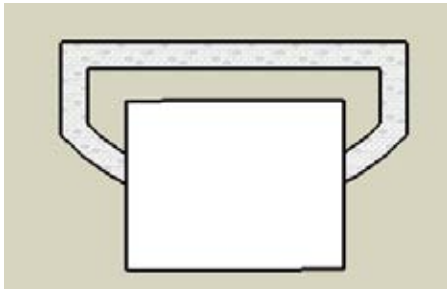

Figure 3-34
- Pull out the rectangle so that it extends over the curved wall. In Top view, the window shape should look like in Figure 3-34: covering the front, curved wall, but not the back wall.